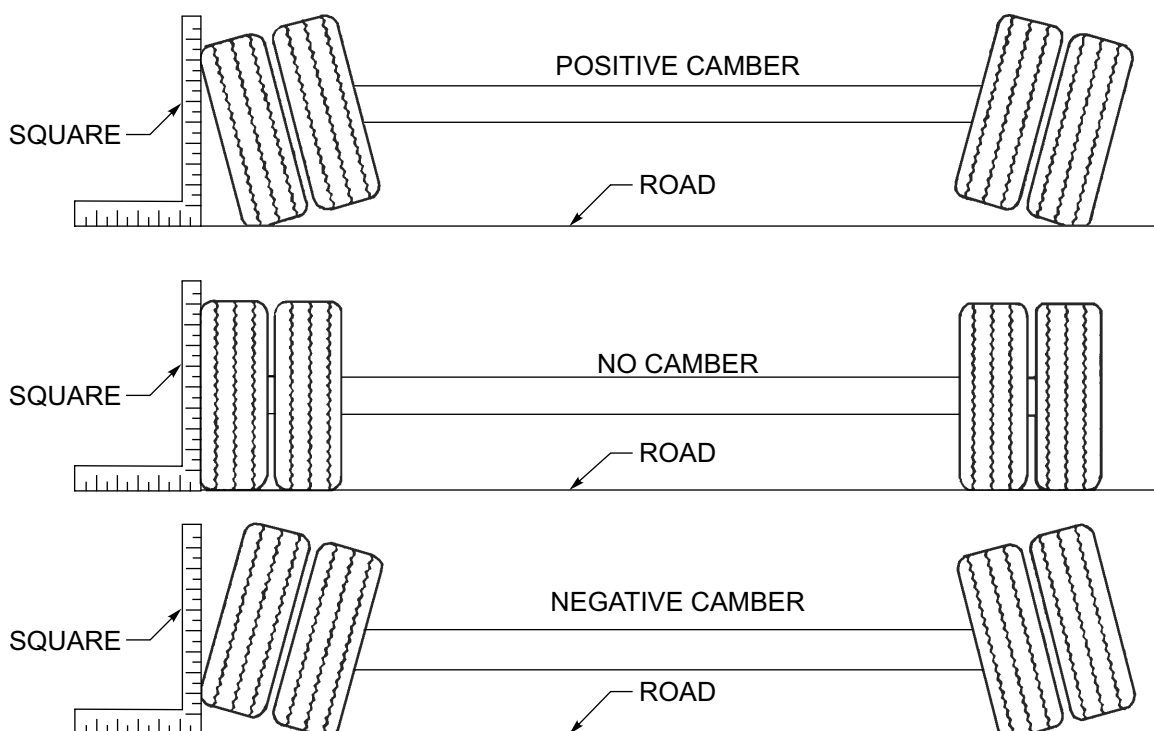

Figure 4-9: Examples of Camber
4. Follow the same procedures as in **steps 2 and 3**, except place the axle gauge above and below the axle. If gauge point gap is found, the axle has positive or negative camber. The trailer axle has no camber from the factory. If it is found to have positive or negative camber, axle replacement is necessary **See Figure** (*See Figure 4-9*) for examples of camber.